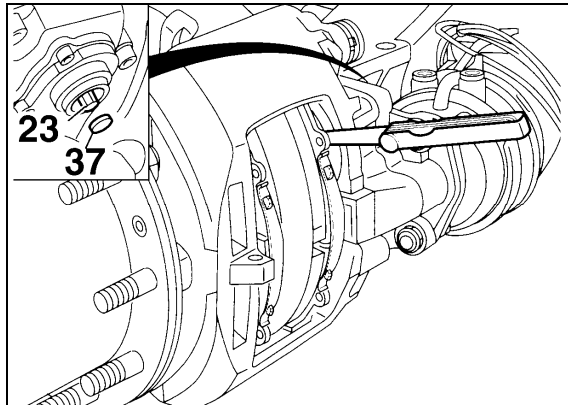

FIGURE 38: RUNNING CLEARANCE 12116
- a) Insert a feeler gauge 0.028 inch (0.7 mm thickness) between tappet and pad backplate (Fig. 38). Turn adjuster pinion clockwise until 0.028 inch (0.7 mm) clearance is achieved. Replace cap (37) (Prévost # 641313).
- b) To ensure a constant running clearance between the rotor and pads, the brake is equipped with an automatic adjuster unit. When the pads and rotor wear, the running clearance between the pads and rotor increases. The adjuster (23, Fig. 38) and turning device turn the threaded tubes by the amount necessary to compensate the wear.